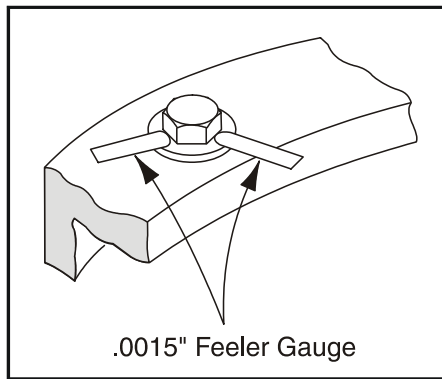

Figure 3-78. Swing Bolt Feeler Gauge Check.
- b. At the positions indicated on Figure 3-78., try to insert a 0.0015 in. feeler gauge between the bolt and hardened washer at the arrow indicated position.
- b. At the position indicated on Figure 3-78., try to insert the 0.0015 in. feeler gauge between the bolt head and hardened washer at the arrow indicated position.
- d. At the position indicated on Figure 3-78., try and insert the 0.0015 in. feeler gauge between the bolt head and hardened washer at the arrow indicated position.